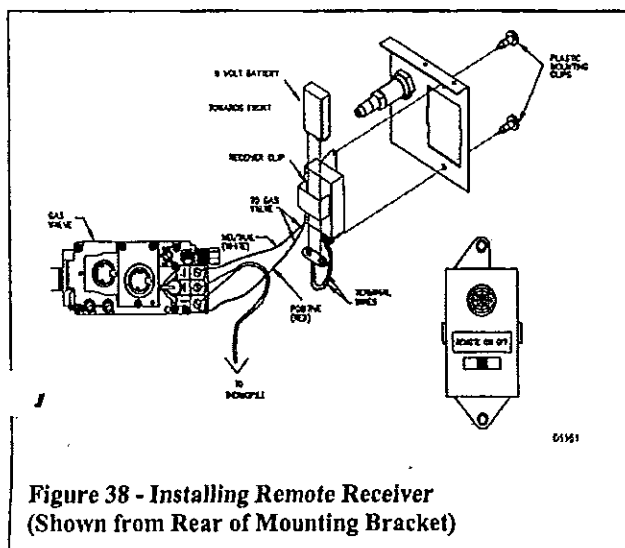

Figure 38 - Installing Remote Receiver
3. Slide a 9 volt battery into the clip on the back of the US-RC remote receiver and connect the battery terminals to the battery. Install the remote mount the unit on the bracket with the clips provided. (see Figure 38) The US-RC receiver may also be installed to replace an existing wall switch and can be mounted in a standard switch box using the cover plate and screws provided.